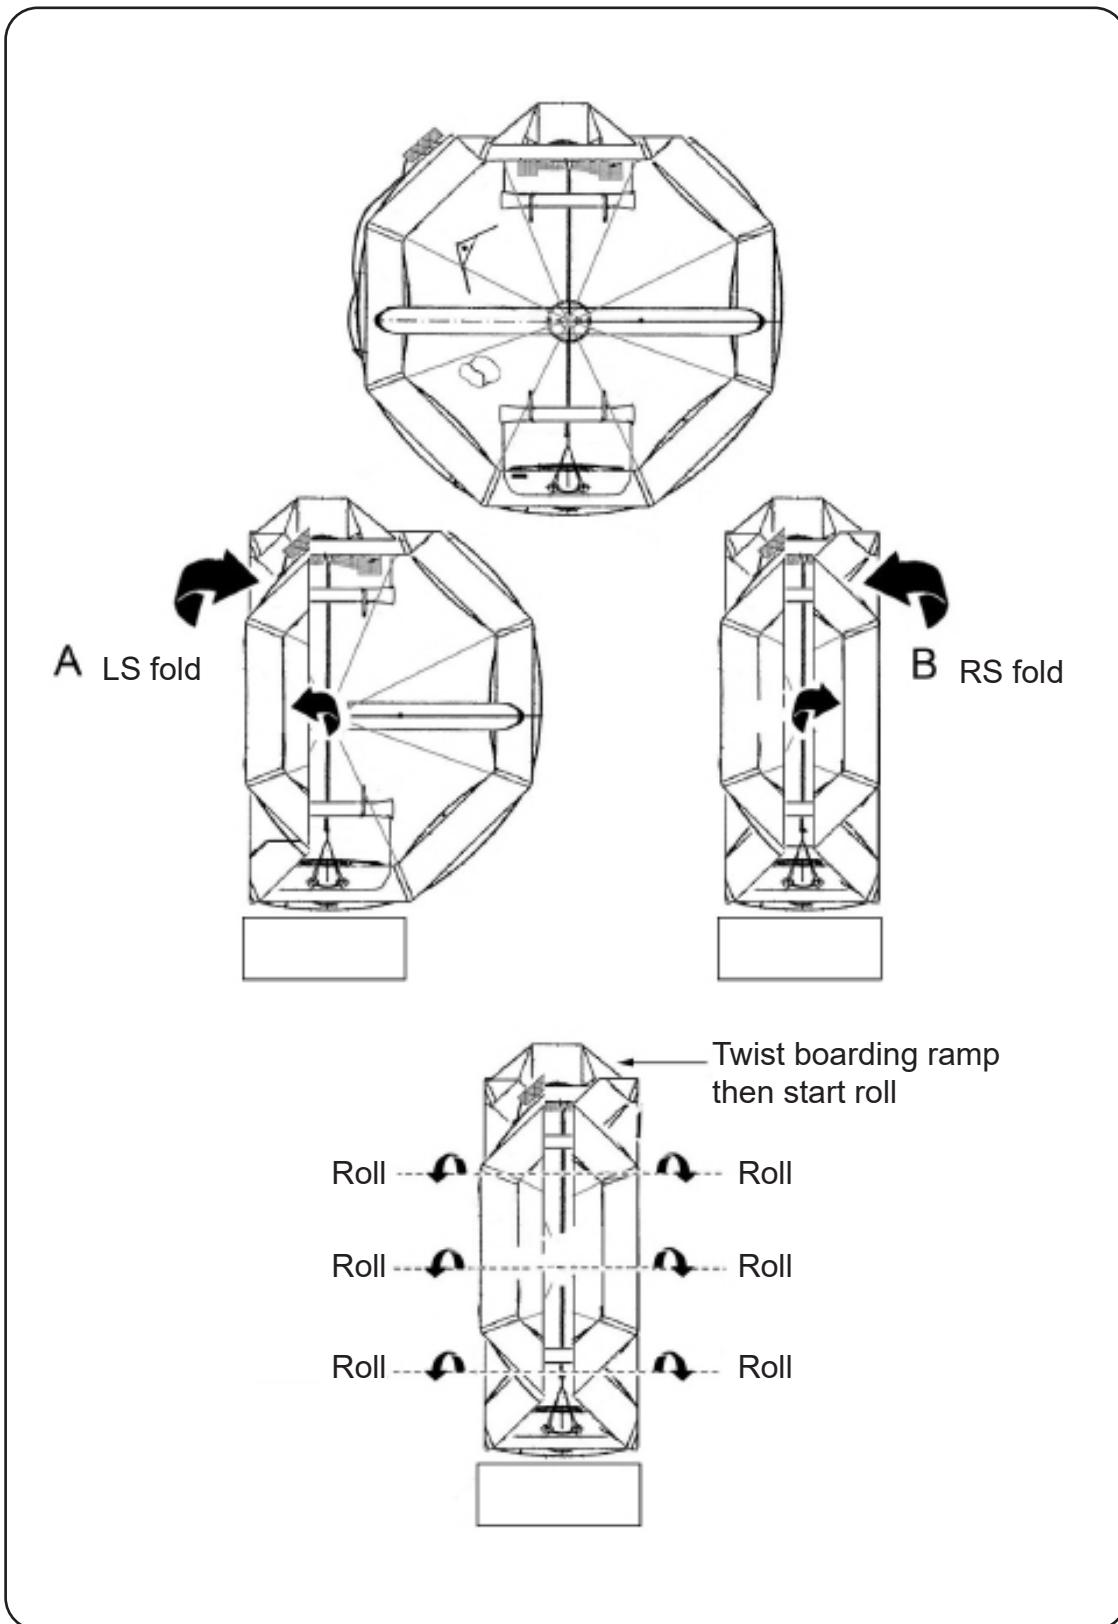

FIGURE A9-13
- 2.36 Fold the RS of the liferaft over then back. Refer to FIGURE A9-13 Detail B.
- 2.38 Press down as tight as possible, roll the liferaft towards and then into the container. Refer to FIGURE A9-13.